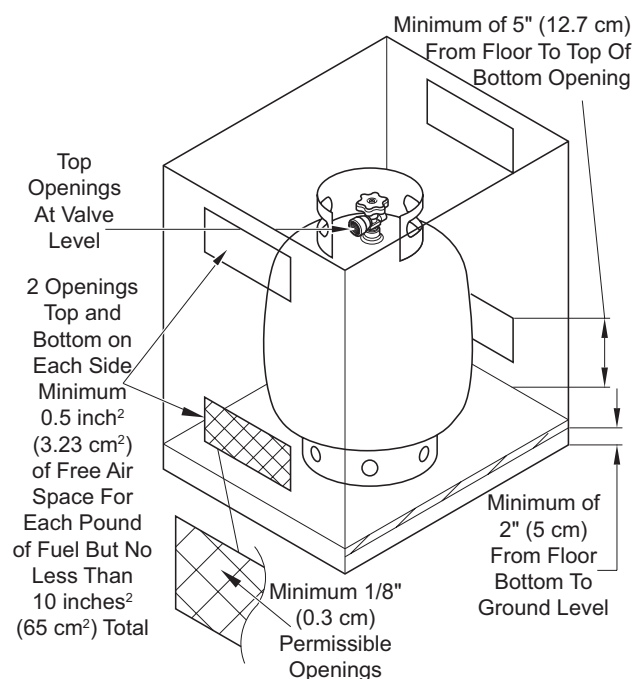

Figure 12 - Propane/LP Tank Enclosure
- An enclosure must have either one open side or at least four opposing vent openings, top and bottom, which meet minimum requirements for size and location (see **Figure 12**).